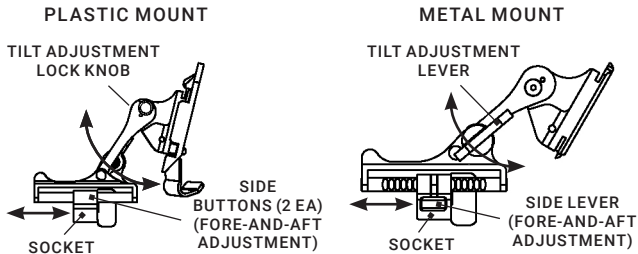

FIGURE 2-15. TILT AND FLIP-UP ASSEMBLY MECHANISMS
Set your eye relief by depressing the side buttons (or, if using a metal mount, the side lever) (Figure 2-15) and carefully move the monocular until the eyecup comfortably seals around your eye. Adjust the helmet straps vertically as needed.
4. Turn the device ON. Adjust the tilt using the tilt adjustment lock knob (a lever on the metal mount, see Figure 2-15), until you obtain a comfortable viewing angle.
6. Adjust eye relief distance by holding the side buttons (or lever, if using a metal mount) down (Figure 2-15) and sliding the monocular back and forth until you obtain a full view of the image. Adjust the diopter for the sharpest image.